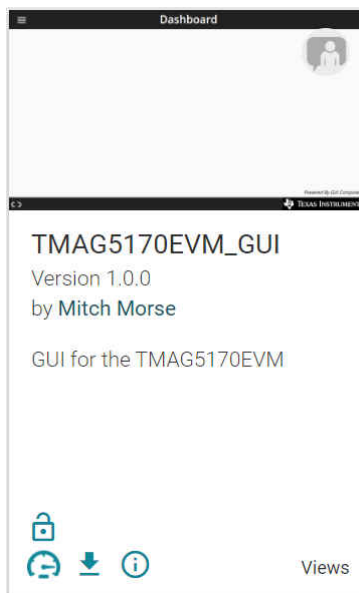

Figure 4-4. GUI Composer Application Window
3. To launch the GUI from the web browser, click the *GUI Composer* application to open the *GUI Composer* window (see Figure 4-4).
4. Optionally, the GUI can be downloaded for offline use by clicking the  icon in the *GUI Composer* window shown in Figure 4-4.